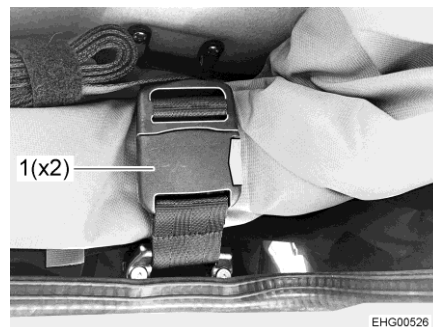

Fig. 47 Belt lock
- Open both belt locks (Fig. 47,1).